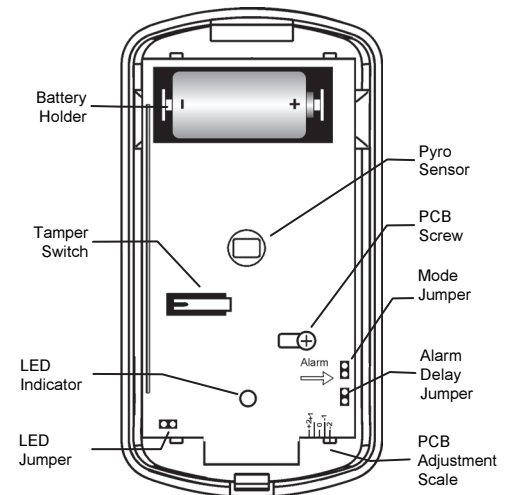

Figure 1: EL-2650XL (Cover Off)
4. Knock out the mounting holes and test the transmitter from the exact mounting position before permanently mounting the unit. The EL-2650XL can be wall or ceiling mounted. **Note: The "Alarm" arrow on the PCB (See figures 1 and 2) must point inward (i. e. towards the protected area).** The recommended height is 2.2 m. **Note: If you choose mounting height other than recommended (which is not advised), please perform a walk test to check the lens coverage. The recommended mounting height is the best in terms of detection area.**